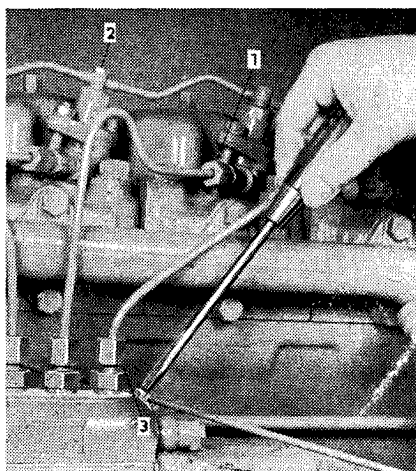
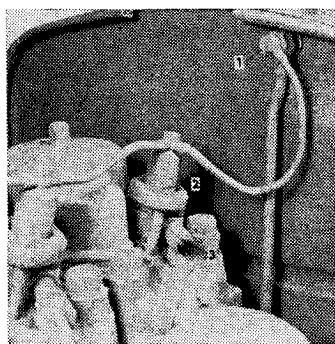
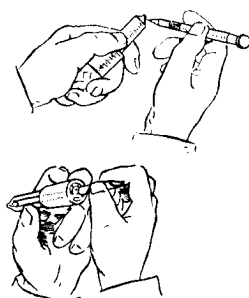

Fig. 28
Fig. 29
Fig. 30
A current defect, such as choked holes of the injection nozzle, is remedied as follows: Disconnect the fuel piping from the injection valve by loosening the cap nut (Fig. 28/1). Dismount the discharge piping by unscrewing the closing
screws (Fig. 28/2) and the cap nut on the discharge piping. In the case of the **Zetor 4011** tractor unscrew the hollow screw (Fig. 29/1). Unscrew two nuts (Fig. 29/2), strip the stirrup from the bolts and take out the defective holder with the nozzle from the head. By a needle for cleaning nozzles clean the carbonized holes in the nozzle (Fig. 30).
2. Loosen the cap nut (Fig. 28/3); if the engine revolutions diminish — the injector is good, if the engine revolutions do not change, the injector is defective and it is necessary to clean the holes of the nozzle, or to replace the injector with a new one.